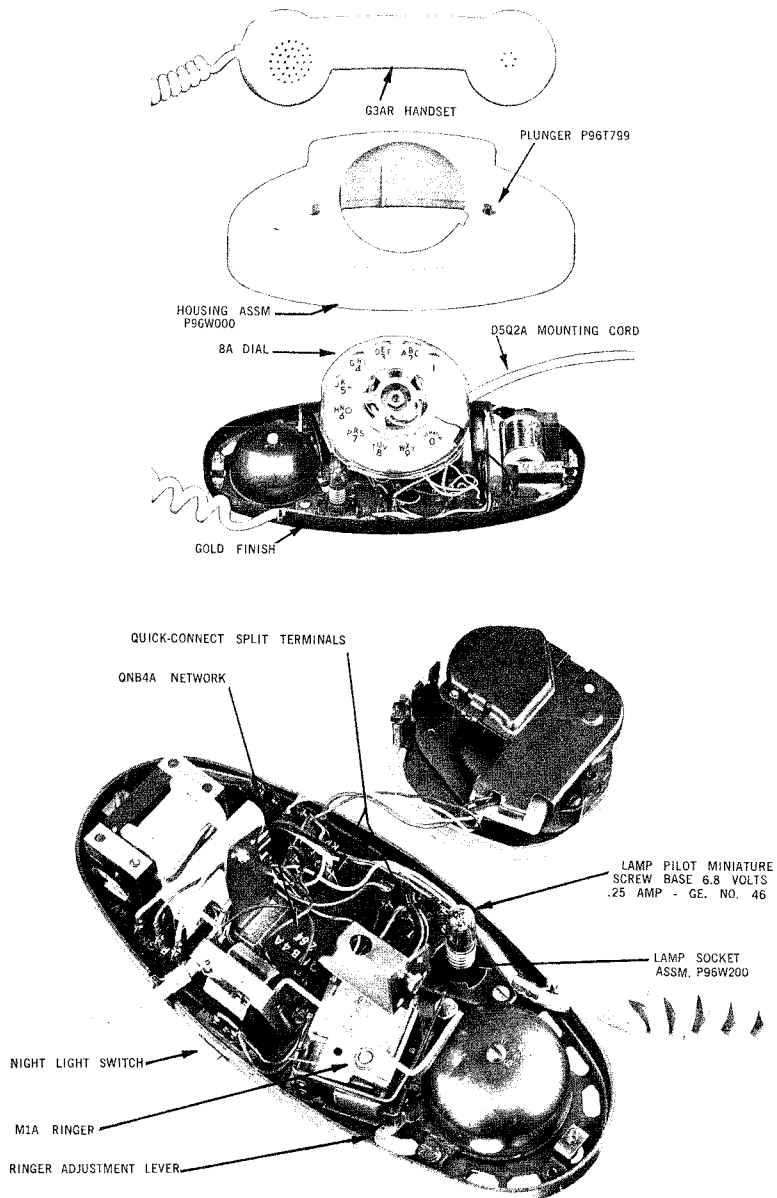

Fig. 5 - 702BQ1A Telephone Set Showing Circuit Board Network
2.10 The 702 type telephone set Fig. 5. is similar to the 701 type except that an internal ringer (MIA) is provided in the base of the set.